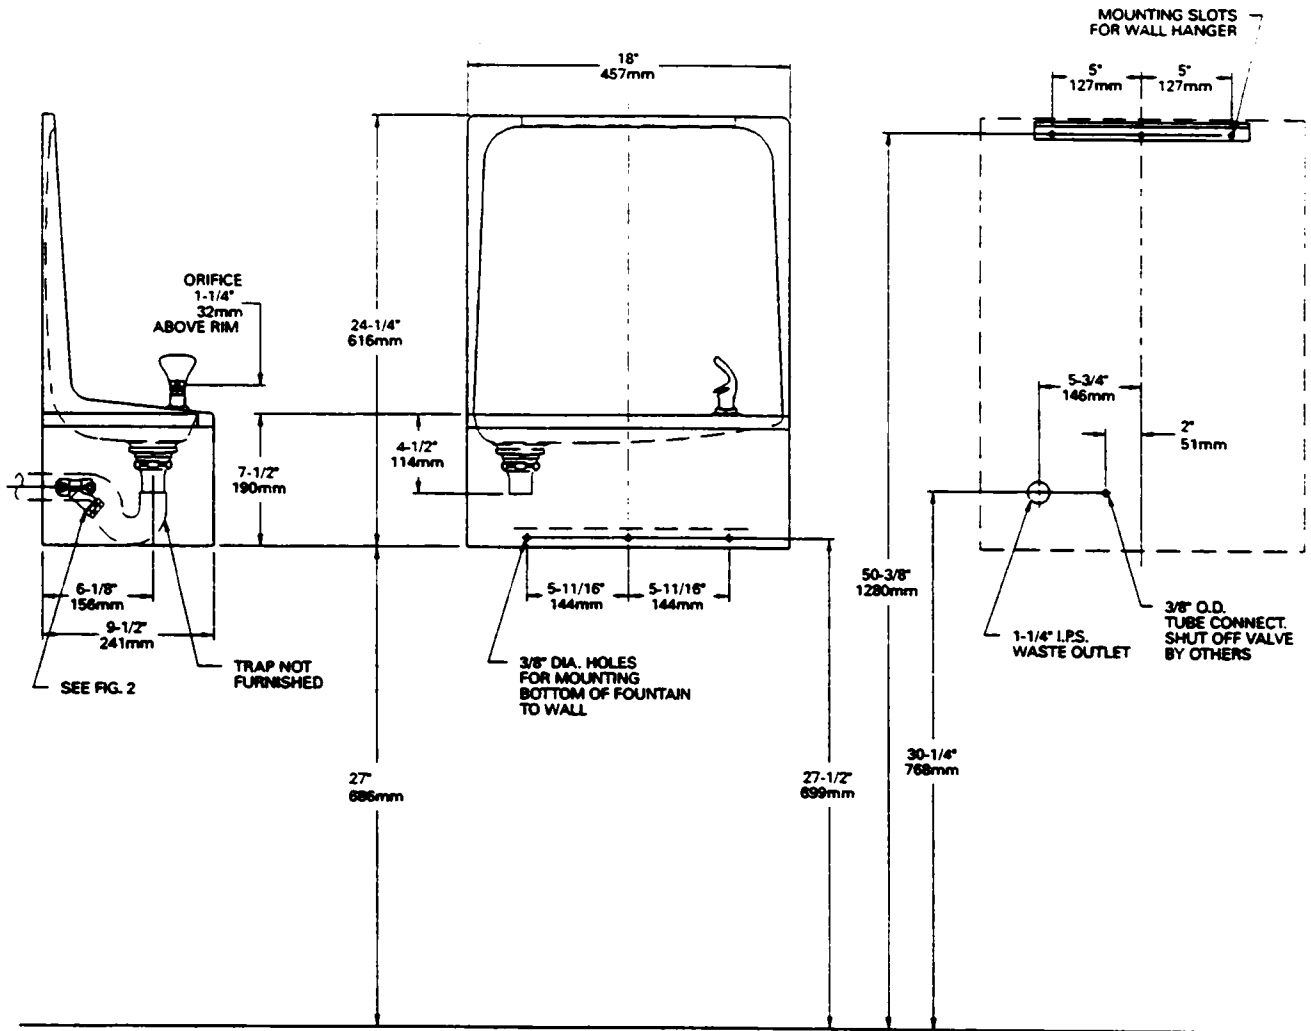

FIG. 1
- 1). Mount the hanger bracket and trap as shown in Figure 1.